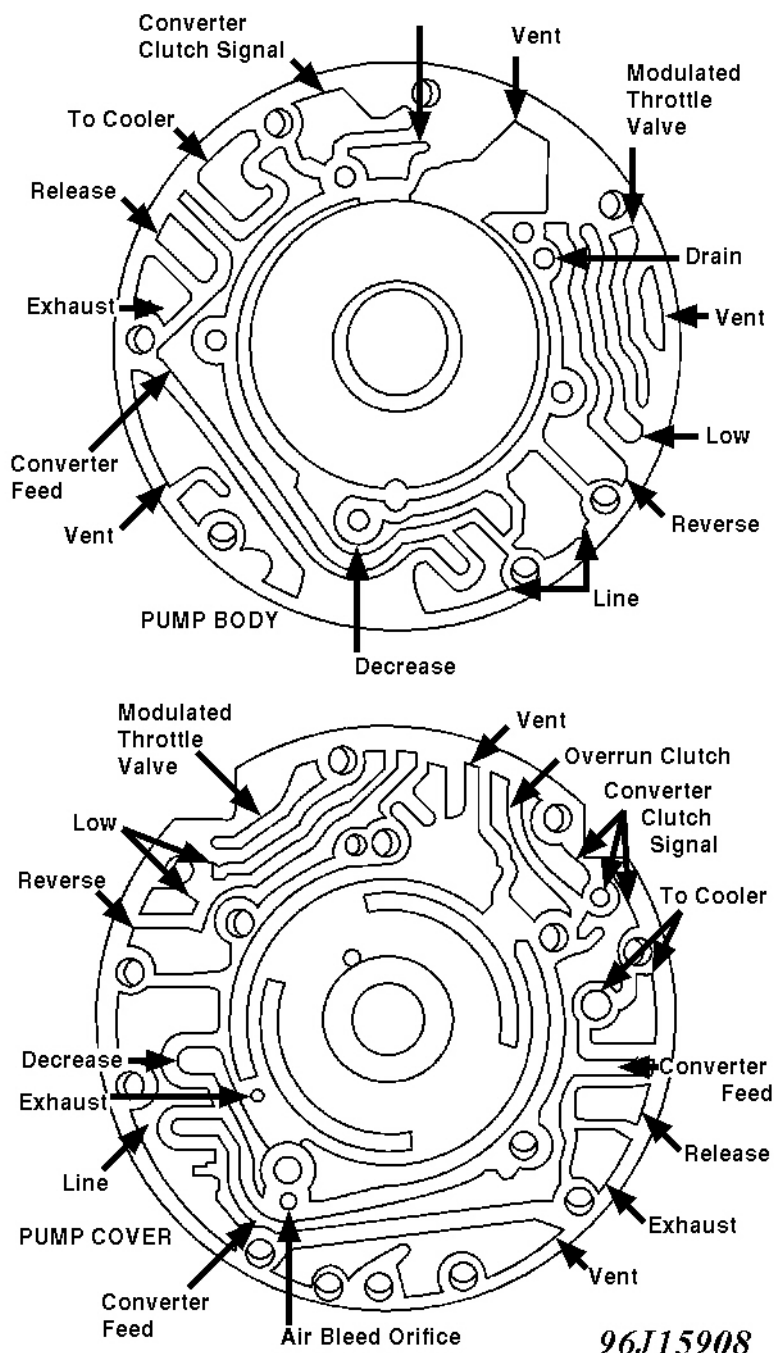

Fig. 31: View of Pump Cover & Body Showing Hydraulic Passages
4. Install all valve trains in reverse order of removal. See **Fig. 31** . Assemble pump cover to pump body and install attaching bolts finger tight. Align cover to body using Alignment Strap (J-25015). Tighten attaching bolts. Install pump-to-case seal ring, chamfered side out, making sure seal is not twisted. Install stator shaft-to-overnrun clutch selective thrust washer and retain with petroleum jelly.